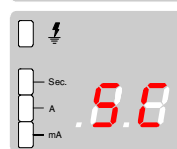

Fig. 4
- Shorts that are present across terminals **11** and **13** (typically < 33Ω and purely resistive) will force the unit to display the characters as shown in Fig.4. However, the unit still remains functional other than not being able to detect and display fault currents.